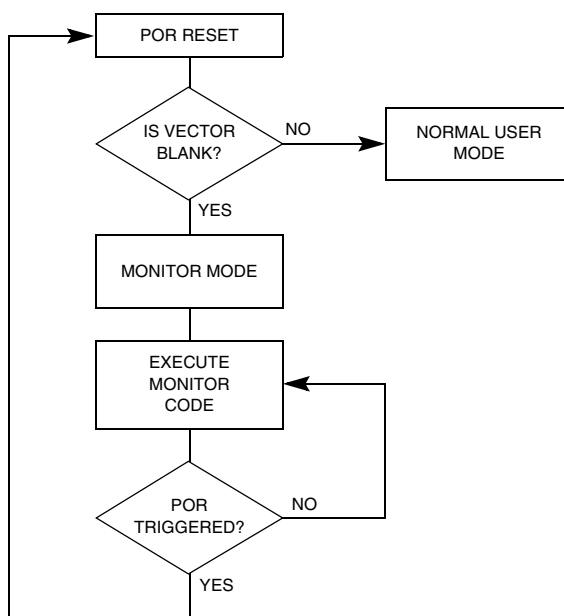

**Figure 10-2. Low-Voltage Monitor Mode Entry Flowchart**
**Figure 10-2.** shows a simplified diagram of the monitor mode entry when the reset vector is blank and  $\overline{IRQ} = V_{DD}$ . An external clock of 6MHz is required for a baud rate of 9600.